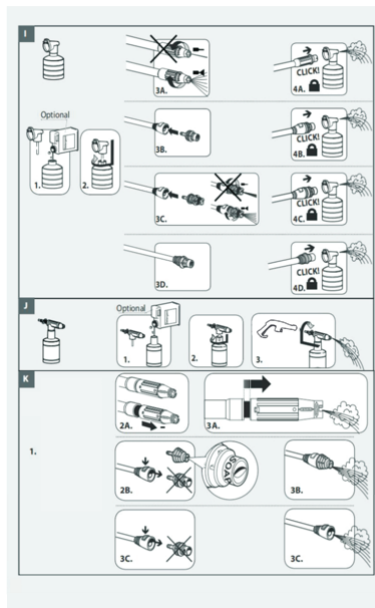

Fig 3
4. Connect the high-pressure hose to the trigger gun. (Fig. 3)